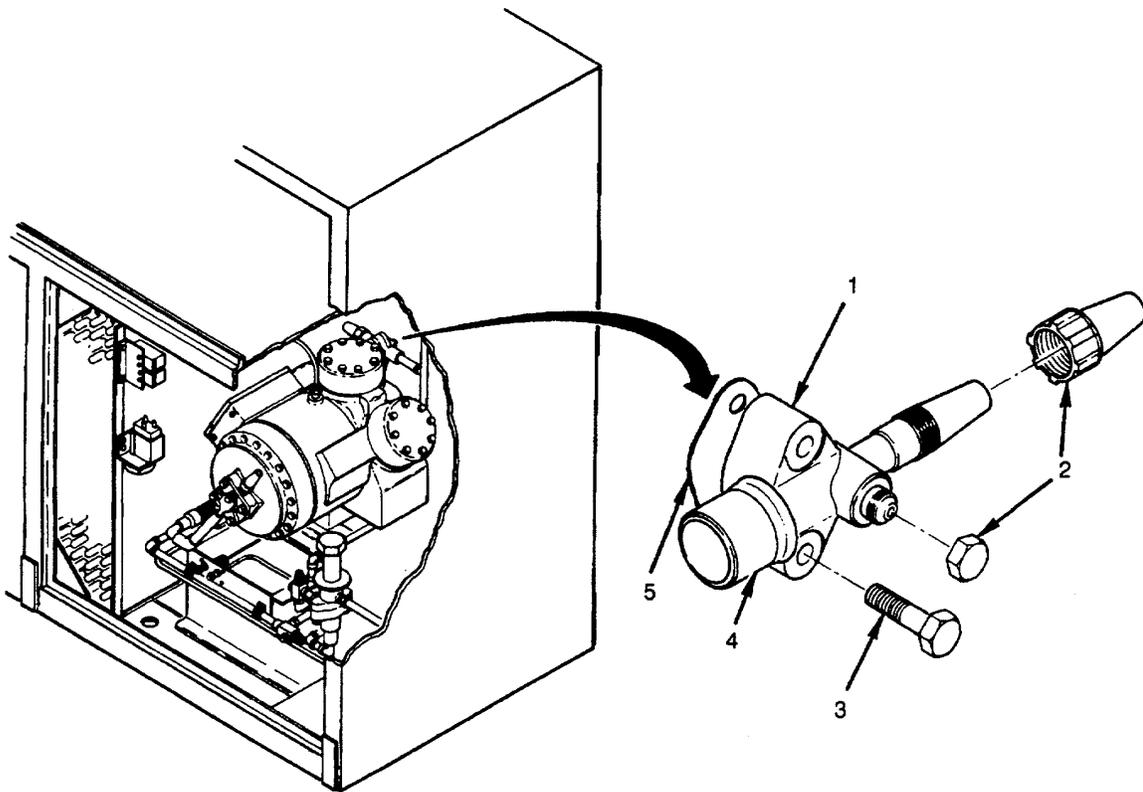

Figure 5-22. Discharge Valve (Compressor)
1. Check that caps are in place and that threaded connection ends are not damaged. Replace if missing or damaged (see Figure 5-22).